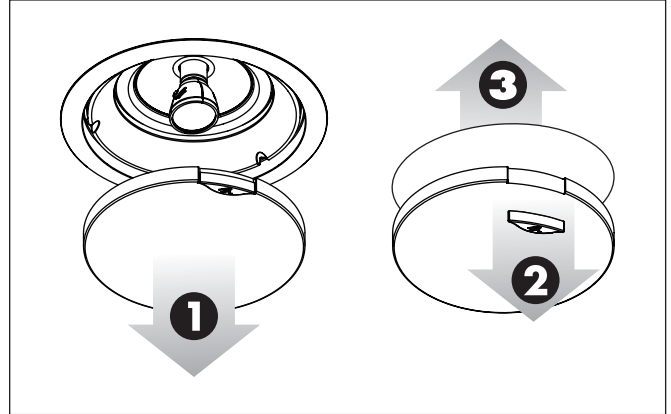

Figure 13. Painting the speaker grill.
- 1 Remove the grill from the Helos 10 (see figure 13).
- 3 A protective scrim is attached to the back of the grill with low-tack adhesive. Remove this scrim by gently pulling it away from the grill cover (see figure 13).